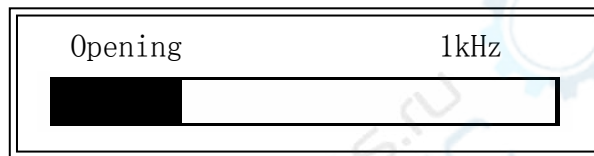

Figure 4-8. Open Correction Information
- 3) Press OpSWP. TH2816B will measure the open admittance (capacitance, and inductance) at all frequency points. Figure 4-8 shows the open correction information.